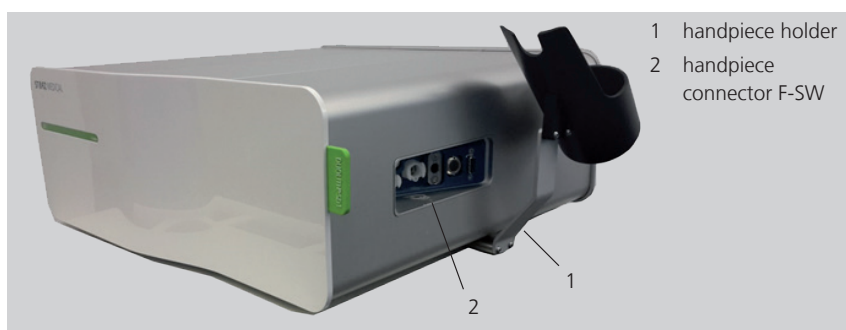

Fig. 3-1 Front and right side of the DUOLITH SD1
- Hang the handpiece into the holder (see Fig. 3-1).